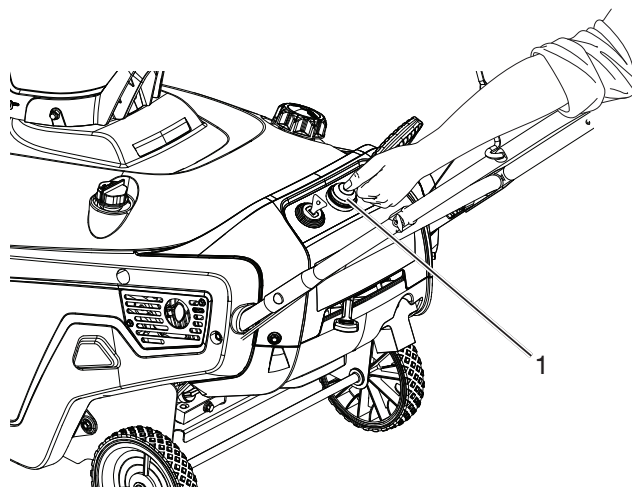

Figure 11
3. Firmly push in the primer 2 times with your thumb, holding the primer in for a second before releasing it each time (Figure 11).